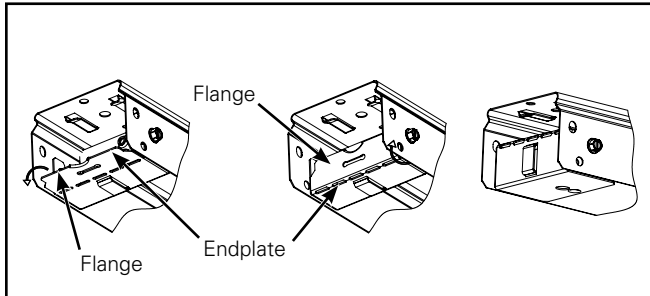

Figure 34.
1. Rotate upper endplate, bend flange as shown and rotate back to its original position in the Channel assembly. (Figure 34.)